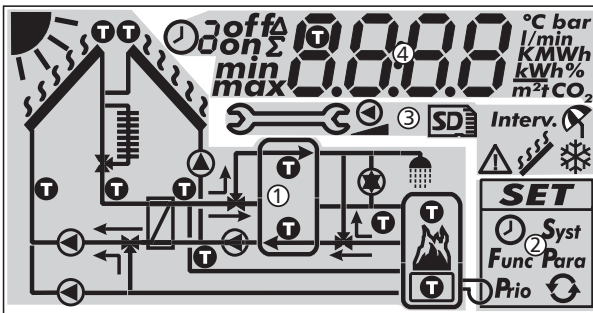

Fig. 8: Overview of the display areas (all elements visible)
The following table describes the symbols used in the system graphics (① in Fig. 8).
The settings menu (② in Fig. 8) contains the following entries:
The following table describes the pictograms used for functions (③ in Fig. 8).
The display of the operational and setting values (④ in Fig. 8) consists of the following elements:
①	<p>Symbol for time control of functions. This symbol is displayed when:</p> <ul style="list-style-type: none"> • a time restriction / control has been set, • the status of time restriction/control is displayed, • the time restriction blocks a temperature control (symbol flashes).
②	<p>Number of the time window that is currently being set/displayed or within which the current time lies. The time control of a function consists of 1 to 3 configurable time windows. Example: Time window 1: 06:00 – 08:00 Time window 2: 11:00 – 12:30 Time window 3: 17:00 – 19:00</p>
③	<p>Additional information: on, off: switching state/condition on, off max, min: maximum value, minimum value Σ: summed operational value since first commissioning, cannot be reset Δ: summed operational value since last reset to 0</p>
④	<p>Symbol is displayed when a temperature sensor is selected when setting a function.</p>
⑤	<p>Display of:</p> <ul style="list-style-type: none"> • Measurements • Settings • Error codes • Additional information, e.g. software version
⑥	<p>Physical unit of the value displayed in ⑤: °C, bar, l/min, K, MWh, kWh, %, m², tCO₂</p>